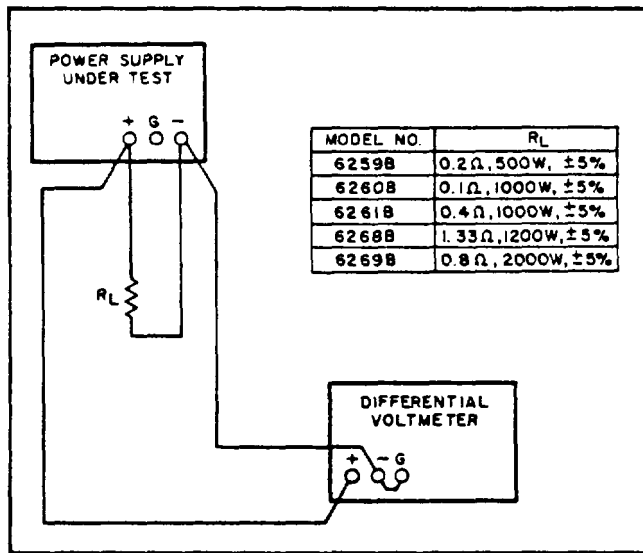

Figure 5-2. Constant Voltage Load Regulation Test Setup
- Connect load resistor (R_L) indicated in Figure 5-2 across output terminals of supply.
- a. Connect test setup shown in Figure 5-2.
- a. Connect load resistance and differential voltmeter as illustrated in Figure 5-2.